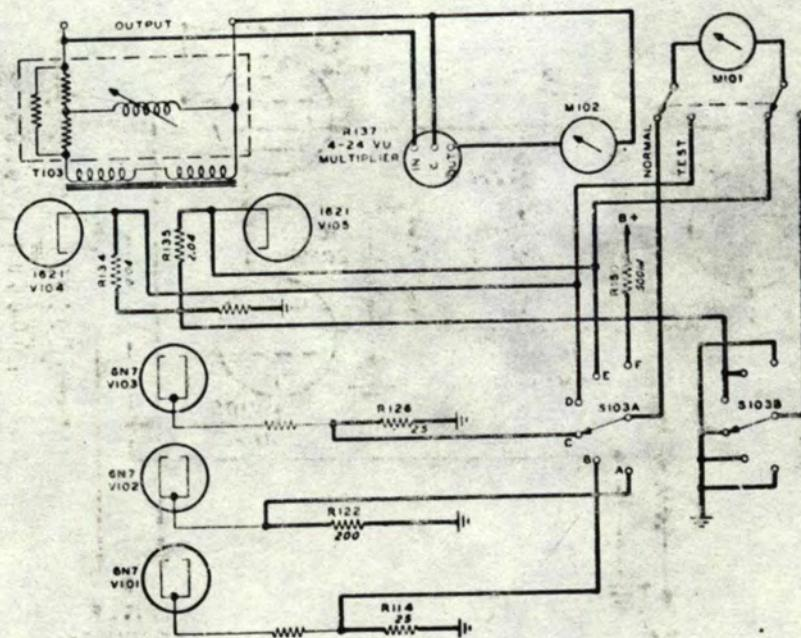

Figure 2-6. Metering Circuits
e. METERING CIRCUITS. - The arrangement of the metering circuits provides a continuous visual indication of operating conditions. Refer to Figure 2-6. The meter, M101, may be connected to measure any one of the following by the operation of the metering selector switch S103, (A) amount of compression, (B) input amplifier cathode current, (C) interstage amplifier cathode current, (D) V104 cathode current, (E) V105 cathode current and (F) plate supply voltage. The resistors, R114, R122, R126, R134, R135, are used as meter shunts when measuring the cathode currents. A series multiplier resistor, R150, is used when measuring the plate supply voltage. A VU level indicator, M102, is connected across the output load terminals. A range multiplier, R137, is provided. The output level of the amplifier is obtained by adding the setting of the OUTPUT LEVEL attenuator algebraically to the reading of the scale of the VU level indicator M101. For example, if the OUTPUT LEVEL attenuator is set on 10 and the meter swings up to +3 on its scale, the output level is plus 7 VU.